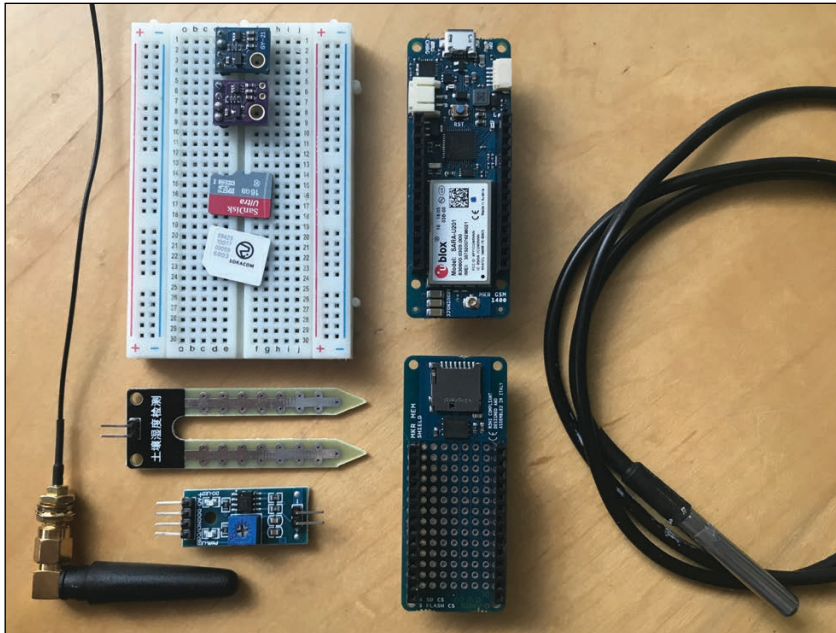

FIGURE 5
Step 1: Required Materials: I have compiled a list of components needed to construct the project. And **Figure 5** shows of a photo of these components. You can find them in online stores. If you have any questions, feel free to contact me. You will also need a soldering iron to connect the components.